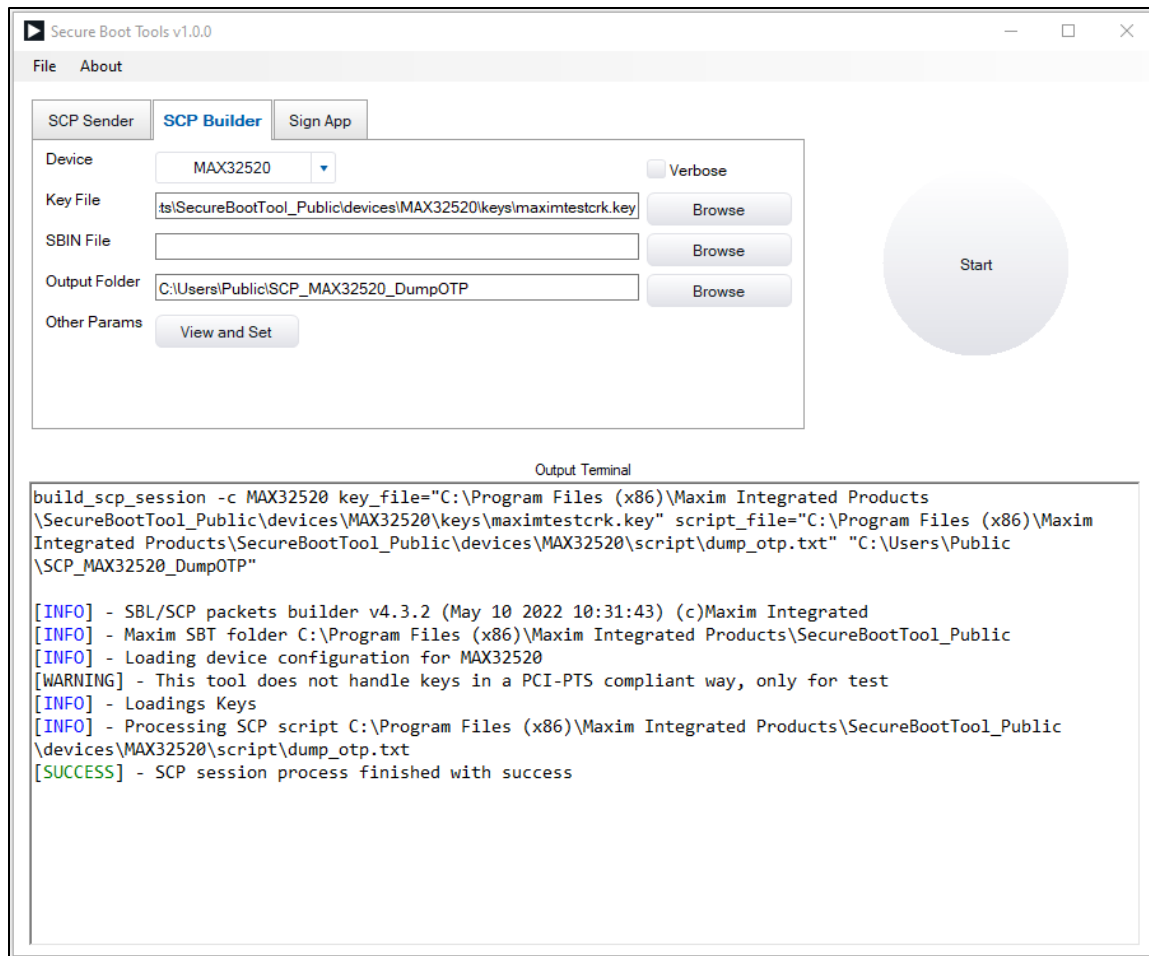

Figure 14. Dump OTP SCP package generation.
8. The output appears on "Output Terminal" screen, as shown in **Figure 14**.